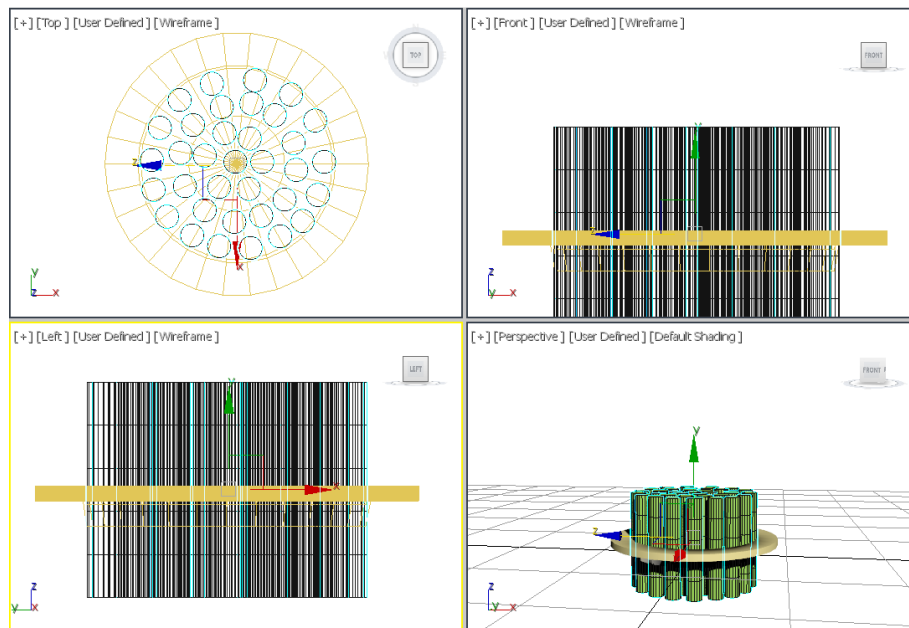

Figure 15-66 Cylinders created and aligned
8. Create copies of the cylinder according to the radius of *sieve* and arrange them, as shown in Figure 15-66.